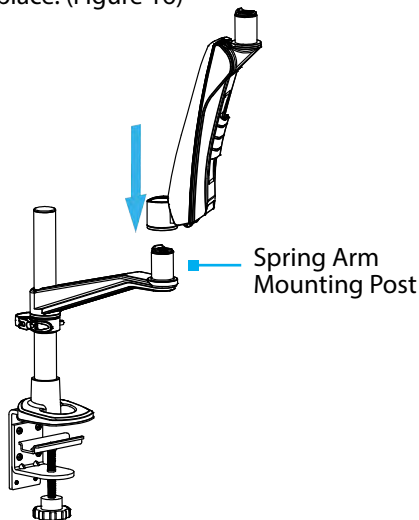

Figure 16
5. Slide the **Spring Arm** onto the **Spring Arm, Mounting Post** until snaps into place. (Figure 16)